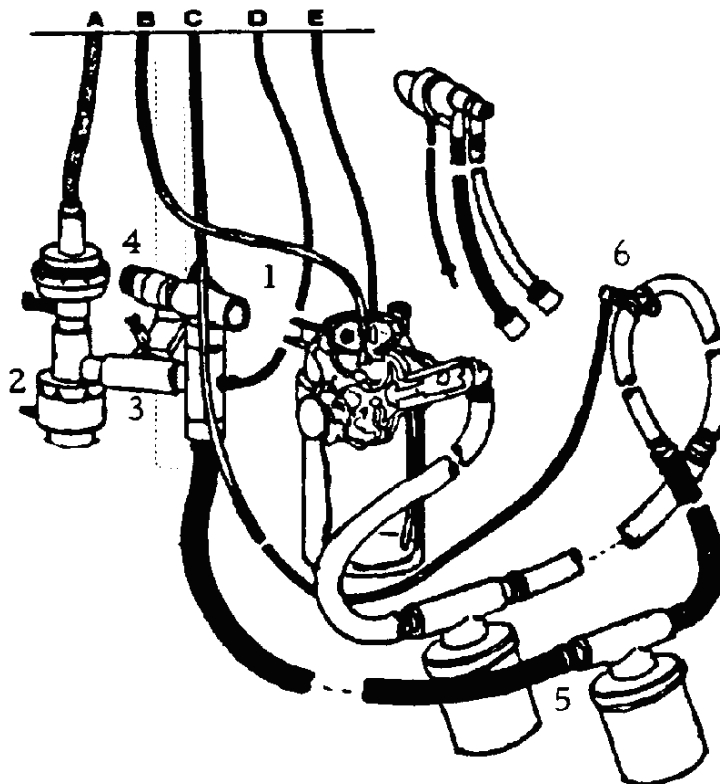

Figure 1-8. Breathing circuit.
c. **Breathing Circuit.** The breathing circuit (figure 1-8) is powered by five power source sockets, indexed A through E. Each socket is carefully labeled to prevent improper hookup.
(1) Tee connections. There are two important tee connections. The master tee (item 3, figure 1-8) mates with the pin-indexed quick-disconnect adapter in only one position. The nebulizer mounting tee (item 1, figure 1-8) serves two purposes. The inside therapy bifurcation (two routes) provides for attachment of the Bird micronebulizer to the rear port.
(2) Inspiratory tube. The inspiratory breathing tube connects to the front port. The bottom port connects to a large green tube from the water trap. To prevent possible misalignment of components, the master tee, shuttle valve (item 2, figure 1-8), and nebulizer mounting tee are permanently fused together. Inspiratory gases are conducted from the nebulizer mounting tee to a Bird water trap (item 5, figure 1-8) to collect condensate and reduce mechanical resistance in the inspiratory side of the breathing circuit. From the water trap, a smaller green tube transports the gas to the airway "Y" junction (item 6, figure 1-8).
(3) Expiratory breathing circuit. The expiratory side of the breathing circuit begins at the "Y" junction with a small red tube extending to the expiratory water trap, which is connected by larger red tubing to the expiratory shuttle valve. Exhaled gases leave the shuttle valve through the expiratory venturi, flow through the master tee, over the top of the airBird valve diaphragm to the outflow valve and vent to atmosphere. Pressurized lines provide pneumatic control over the dynamic breathing circuit. The first of these, a large green tube of the quick-disconnect type, is attached at socket A and provides inspiratory gases to the top of the outflow valve diaphragm.
(4) Proximal airway pressure gauge. From socket B, a line extends to the nebulizer jet, providing constant flow of medication to the nebulizer. A line from the mechanical airway junction extends through socket C to feed airway pressure to the proximal airway pressure (PAP) gauge, which measures actual physiological airway pressure.
(5) Gas flow lines. Pressurized gas is directed from socket D to the expiratory venturi jet in the shuttle valve. Respiratory gases are delivered to an accessory port in the top of the 500cc nebulizer/humidifier from the auxiliary flow socket E. Inflow gases are delivered into the inspiratory side of the breathing circuit through the ports of the nebulizer from two outlet power sources, but both flows are totalled at the flowrate gauge in liters per minute. Take care to avoid confusing the nebulizer jet and auxiliary flow connections on the top of the nebulizer.